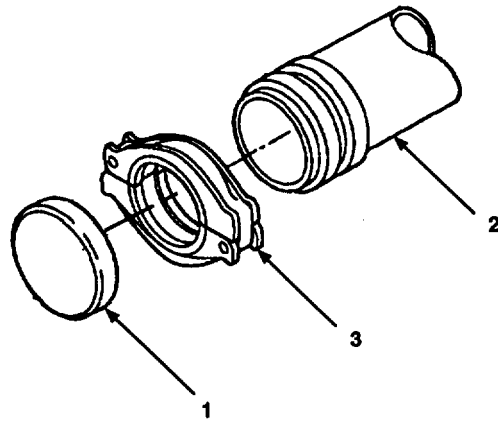
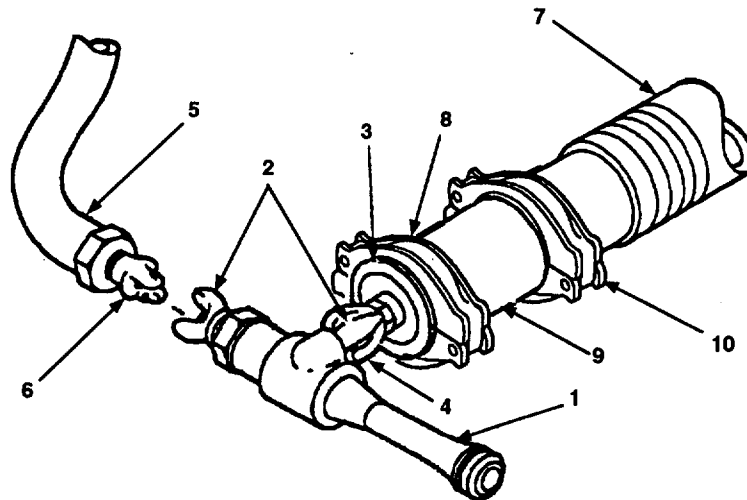

Figure 2-57. End Cap Installation.
Figure 2-58. Collapsing Hoseline.
- p. Locate end cap (Figure 2-57, 1). Connect end cap (1) to end of hoseline segment (2) using grooved-end pipe quick disconnect coupling clamp (3) (para 2.3.3.2).
- r. Locate ejector assembly (Figure 2-58, 1) and two pneumatic couplers (2). Install pneumatic couplers (2) on threaded fittings on ejector assembly (1).
- s. Install ejector assembly (1) on end cap (3) with pneumatic coupler (4).
- t. Connect air compressor line (5) with pneumatic coupler (6) to ejector assembly (1).
- u. Apply air pressure to ejector assembly (1). Operate compressor for 10 minutes to collapse hoseline (7) for repacking.
- v. Turn off air compressor and disconnect air compressor line (5) with pneumatic coupler (6).
- w. Disconnect ejector assembly (1) and set aside.
- x. Remove grooved-end pipe quick disconnect coupling clamp (8) (para 2.3.3.1) connecting end cap (3) with pneumatic coupler (4) to nipple (9).
- y. Remove grooved-end pipe quick disconnect coupling clamp (10) (para 2.3.3.1) connecting nipple (9) to hoseline segment (7).
- z. Connect end cap (Figure 2-57, 1) to hoseline segment (Figure 2-58, 7) using grooved-end pipe quick disconnect coupling (10) (para 2.3.3.2).